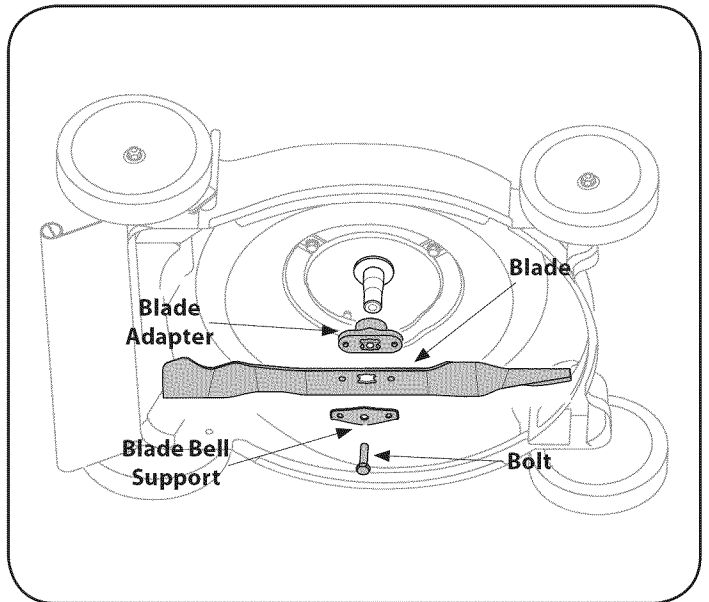

Figure 16
2. Remove the bolt and the blade bell support which hold the blade and the blade adapter to the engine crankshaft. See Figure 16.